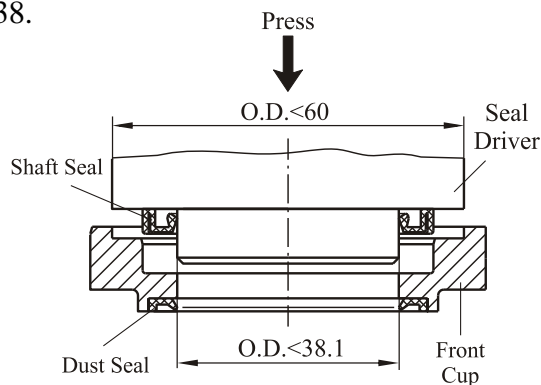

Fig.10
6. Place shaft seal in front cup and firmly push with Seal driver (see Fig.10).